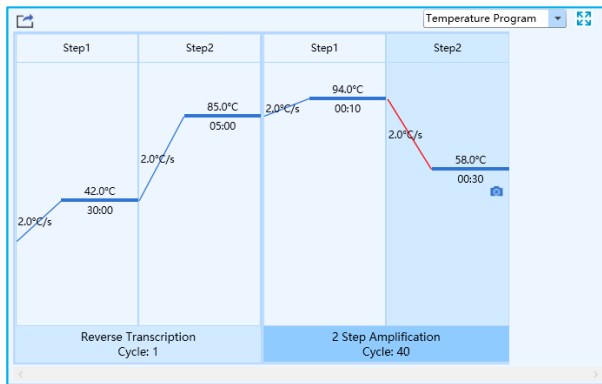

Figure E-8.2. Run Monitoring Interface - Temperature Program Function Module
- 2. **Temperature Program**: displays the temperature program of the current running experiment, as shown in figure E-8.2. The flashing solid red and blue line represents the running temperature program.